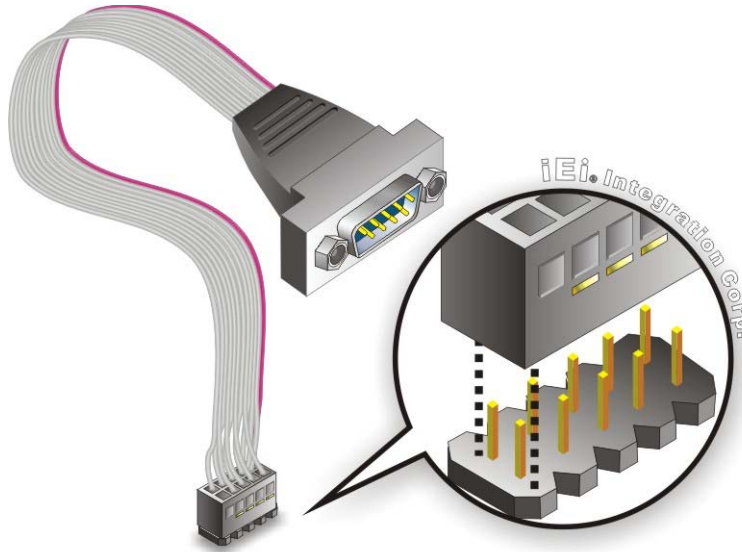

Figure 4-19: Single RS-232 Cable Installation
Step 2: **Insert the cable connector.** Insert the connector into the serial port header. See **Figure 4-19**. A key on the front of the cable connector ensures the connector can only be installed in one direction.